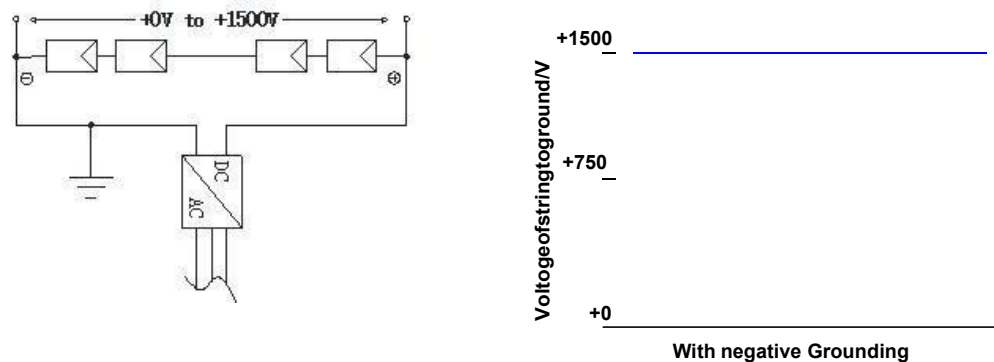

Figure 7 Schematic diagram for grounding potential of the inverter
7.5.6 If the module is used in a high-temperature and high-humidity environment, Maysun Solar suggest the customer configure the inverter which allows negative grounding and contains an isolation transformer (as shown in figure7).